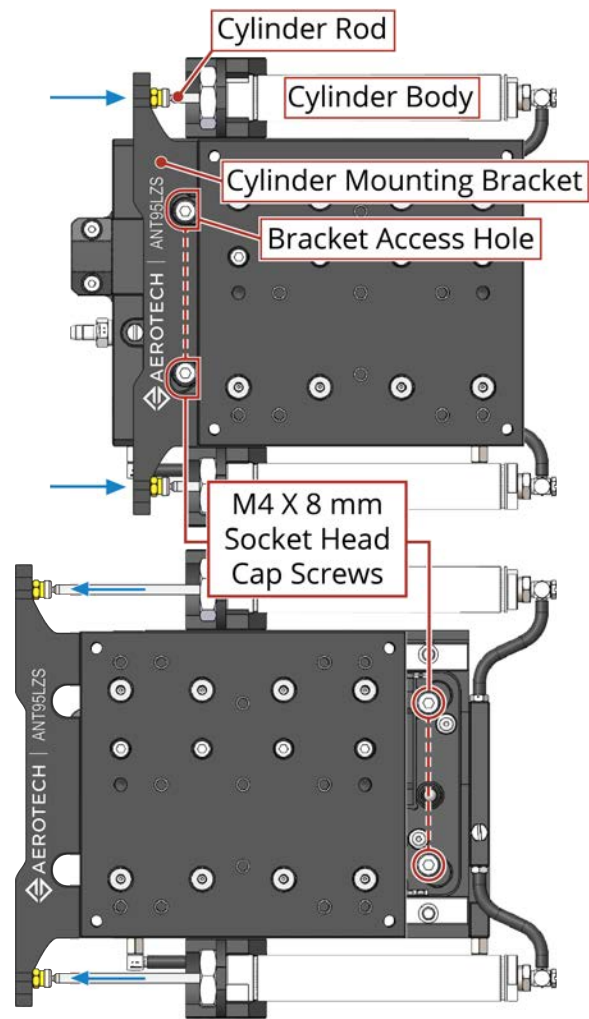

Figure 2-3: Mounting Hole Pattern
2. With the stage laying horizontal, push the carriage to the bottom of travel such that the cylinder rods are mostly hidden in the cylinder bodies as shown in Figure 2-3. Insert one M6 socket head cap screw through an access hole in the stage (refer to Figure 2-3).